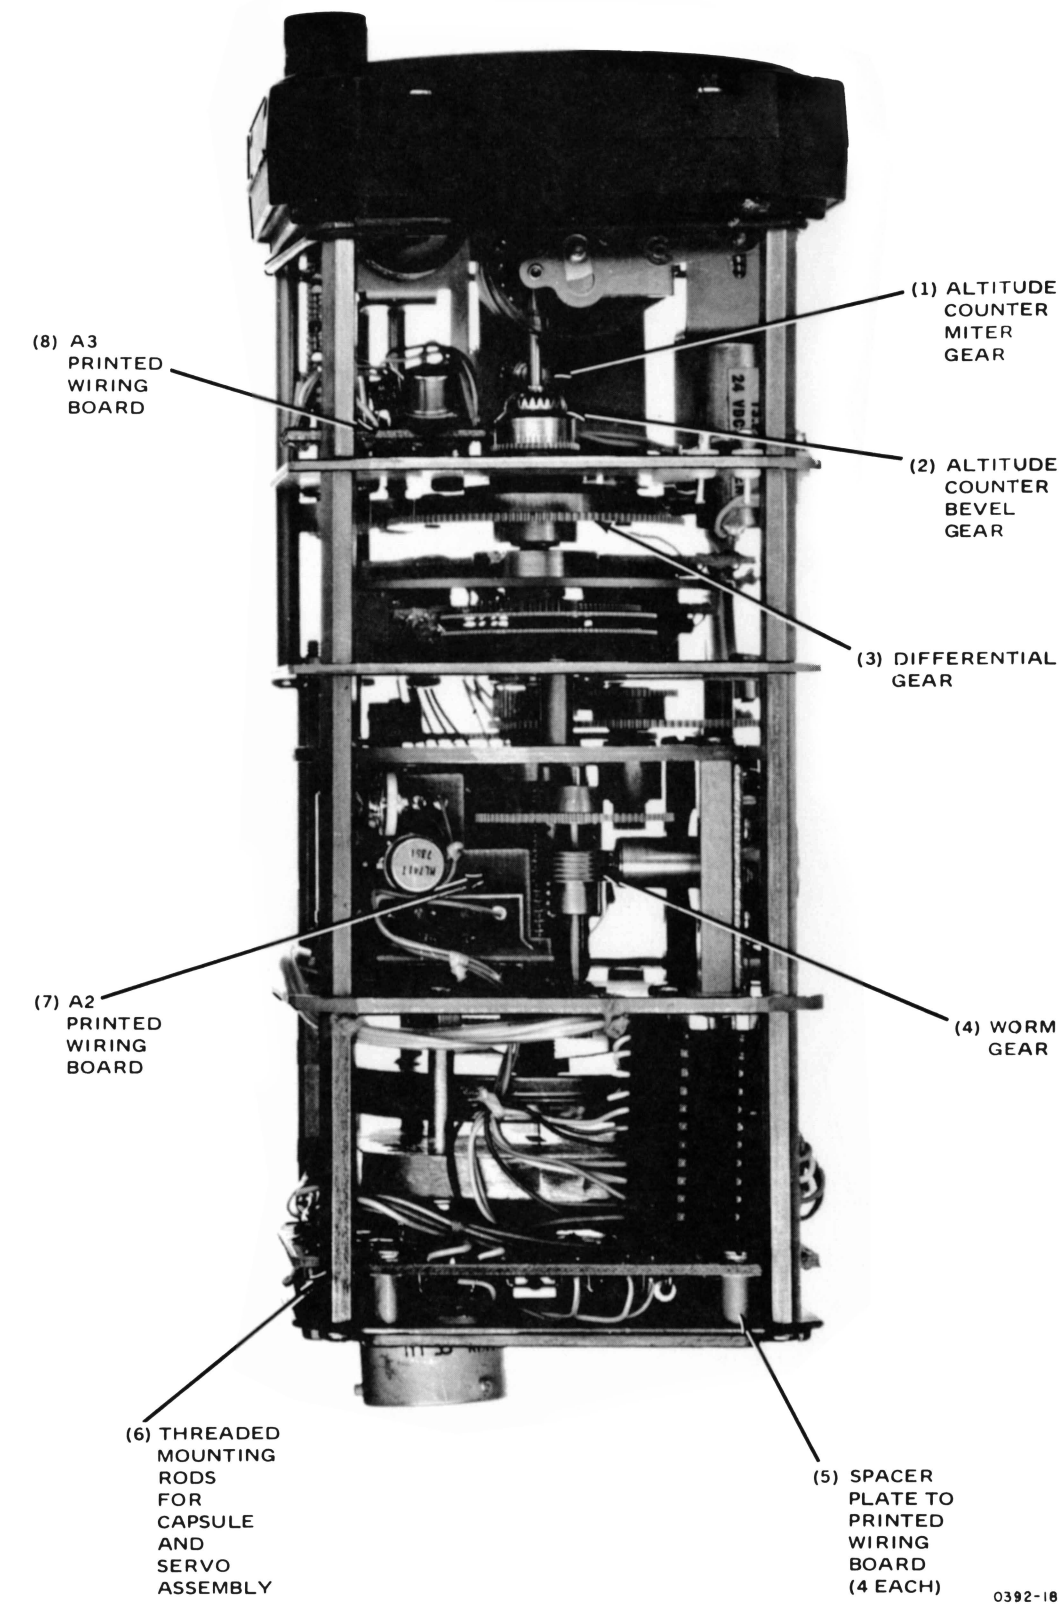

Figure 5-8. Encoding Altimeter, Right-Side View
bly A1. Maintain pressure to prevent four sleeve spacers (3, figure 5-8) from falling out.
- Step 3. Remove four threaded rods (6, figure 5-8) using a box wrench.